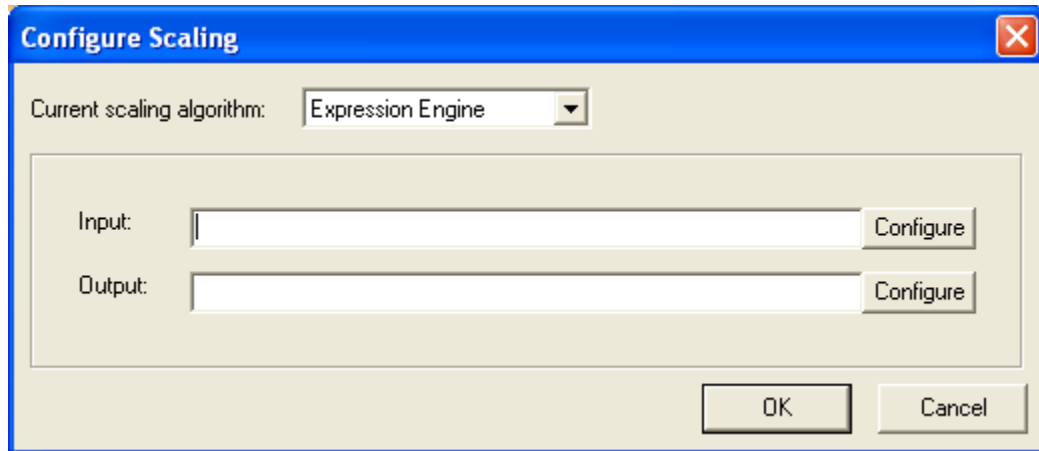

Figure 29 - Expression Engine Configuration
6. Select the **Expression Engine** option (Figure 29).